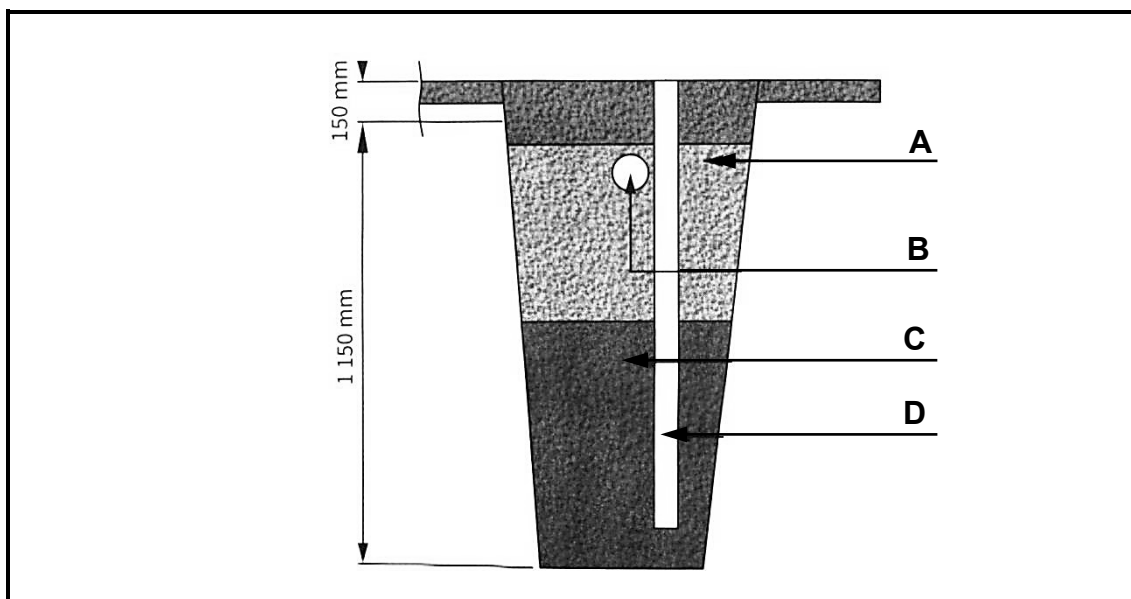

FIGURE 5.5
5.5 Answer the following questions with regard to the French drain in FIGURE 5.5.